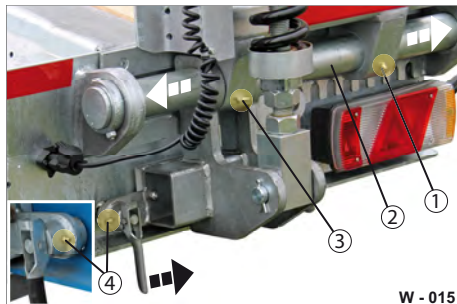

Fig. 18 Lubricating ramp bearing
- ▶ Lubricate the bearing on the lubrication nipple (Fig. 18/1,3,4) with a grease gun until lubricant escapes.
- ▶ Lubricate the bolt bearing points (Fig. 18/2) with machine grease.